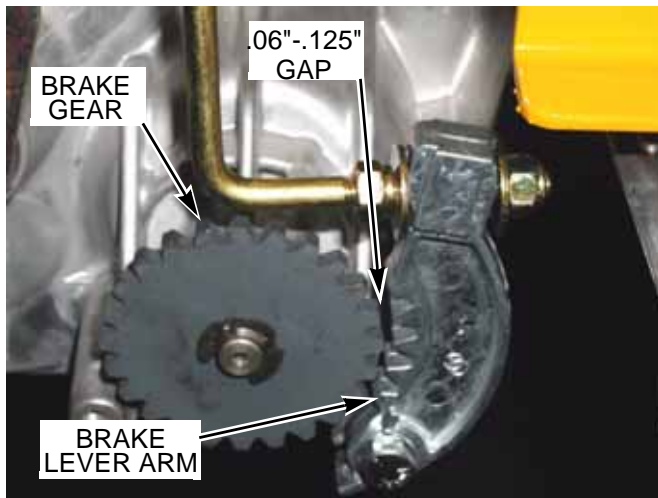

FIG. 21
5. Locate the brake lever arm and brake gear on the EZT transmission. When the steering lever is in the operating position, the brake arm should have a minimum of 0.06" (1.52MM) and maximum of 0.125" (3.18MM) clearance between the teeth of the brake lever arm and the outside diameter of the brake gear (FIG. 21).